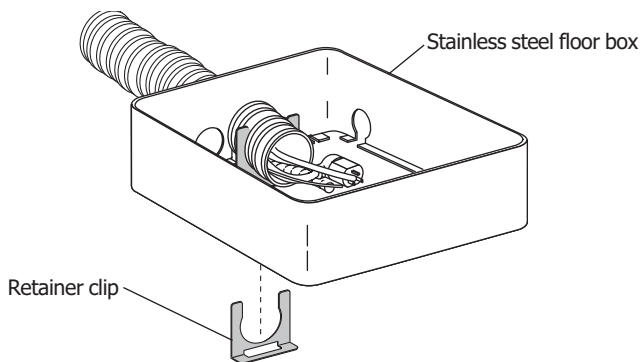

Figure 12
10. Install the umbilical convolute tubing into the floor box and then install the retaining clip (see Figures 12 and 13).